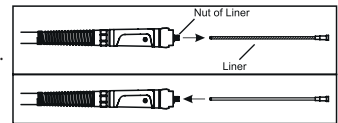

Figure 13 : Removing the Liner and Installing the New Liner
- Unscrew the liner's nut which is on torch connector side and remove the liner existing in torch. After inserting the new liner into the torch, screw its nut tightly (Figure 13).